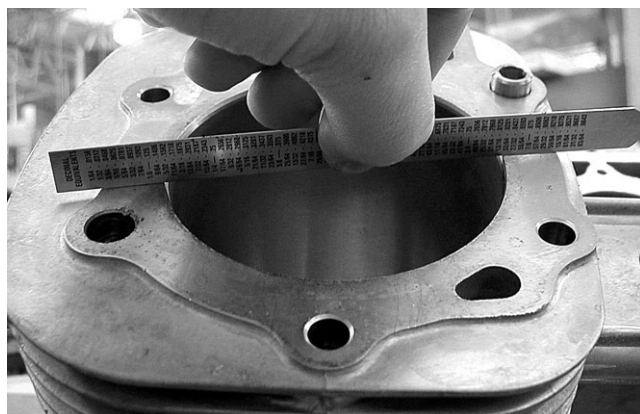

Figure 10-1. Checking Cylinder Head Mounting Surface
1. Check cylinder head mounting surface for distortion with a straight edge, Figure 10-1.